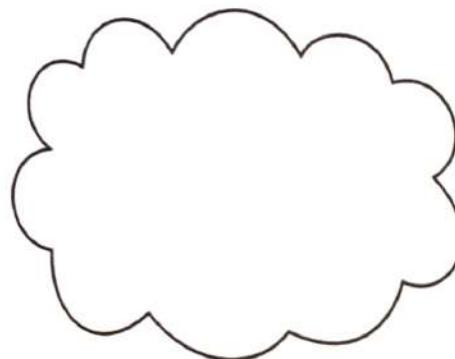

Fig. 4.1.1 : Cloud symbol
- Fig. 4.1.1 shows cloud symbol. It denotes cloud boundary.
- Cloud computing solutions are made up of several elements. Fig. 4.1.1 shows cloud components